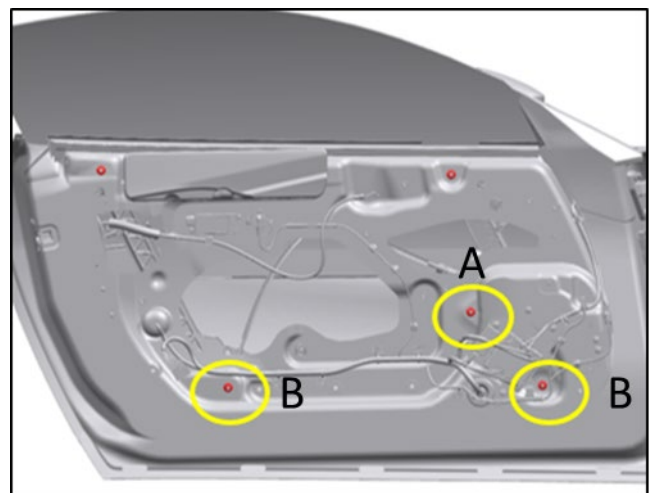
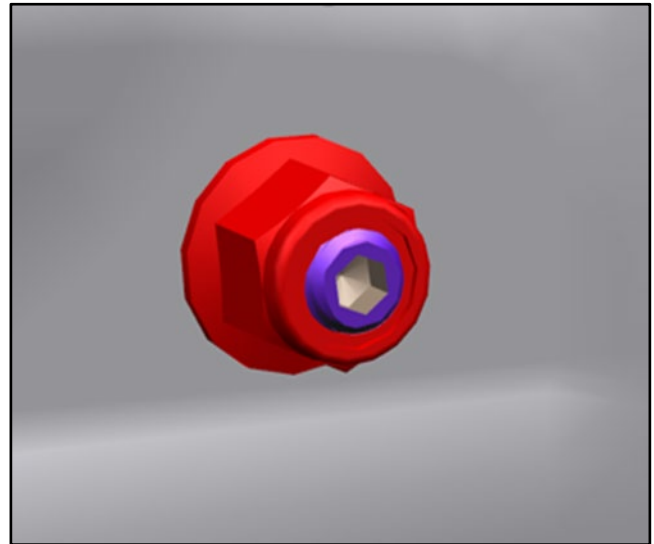

Figure 6
Figure 7
15. Identify the three lower regulator fixings on the inner door panel. (Refer to Figure 6 and Figure 7.)
CAUTION: IN THE STEP THAT FOLLOWS MAKE SURE THAT FIXING "A" IS ADJUSTED BY HALF OF ANY ADJUSTMENT TO THE TWO FIXINGS "B" (REFER TO FIGURE 6). IF YOU DO NOT DO THIS THE REGULATOR RAIL CAN GET TWISTED.